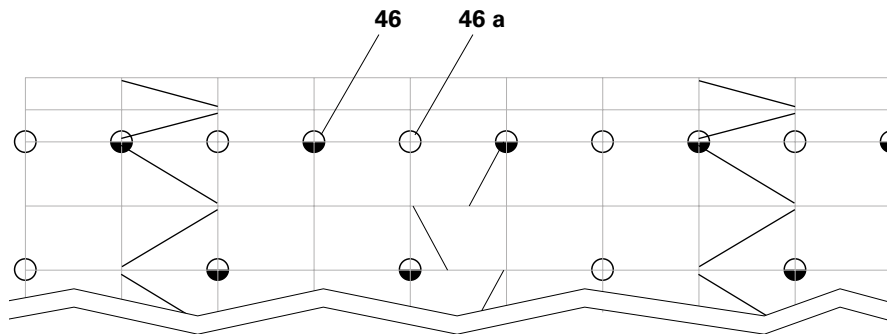

Fig. D3.09
- Anchor every second frame column to the inner and outer legs with Wall Ties UWT (46).
- (Fig. D3.09)